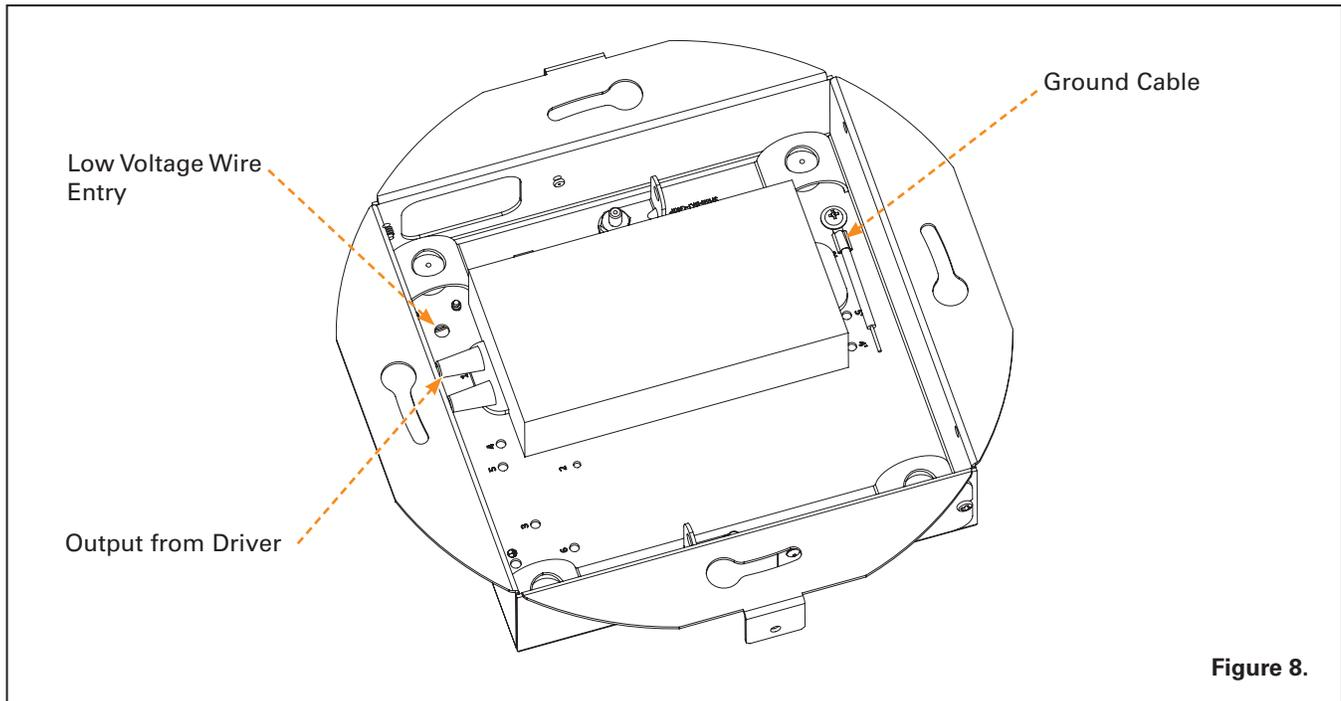

Figure 8.
Step 8. Make the Low Voltage wire connections to the driver (LED output), with the Wire nuts provided. Figure 8
Step 9. Use the Ground Cable from driver box, to ground from J-Box wire and make connection with the wire nuts provided for ground. Figure 8